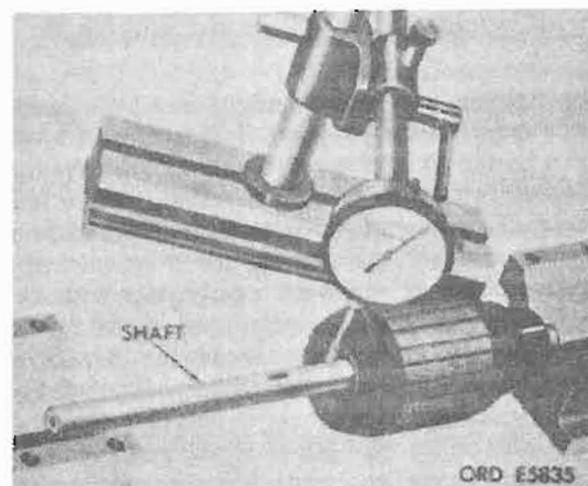

Figure 7-16. Checking run-out of armature shaft.
(6) Check run-out of shaft as shown in figure 7-16. If runout exceeds 0.002 inch at drive end bearing location, discard armature.